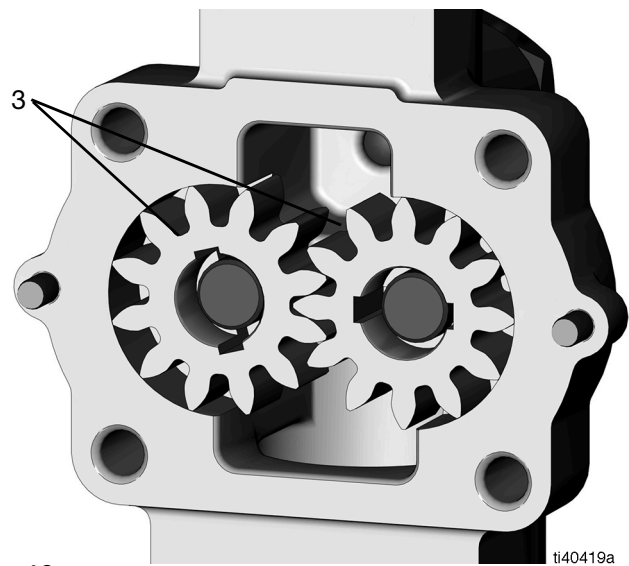

FIG. 10
10. Remove both of the pump gears (3) (FIG. 10).
11. Inspect the pump cavity and pump gears (3) for damage or excessive wear. If there is damage or wear, replace the pump housing assembly. If neither is present, clean the pump cavity and gears (3) (FIG. 10).
1. Place the pump gears (3) into the pump cavity, making sure that they spin freely (see FIG. 10).